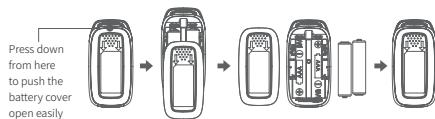

Figure 4
1. Open the battery cover according to the direction of arrows as shown in Fig 4.
2. Place 2*AAA batteries into the battery compartment, and ensure correct positioning as shown in Fig 4.